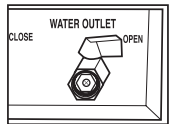

Fig. 7
2. Open the water outlet to drain water. (Fig. 7)